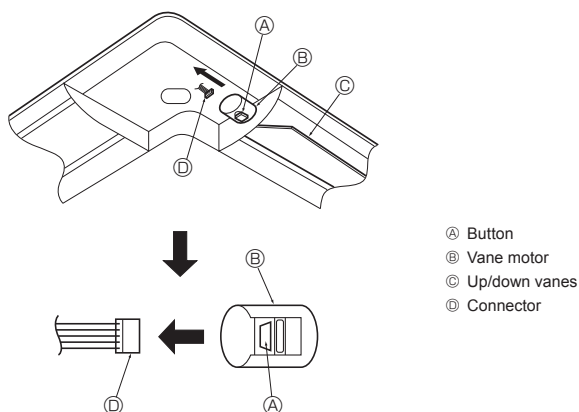

Fig. 10-16
10.4. Locking the up/down airflow direction (Fig. 10-16)